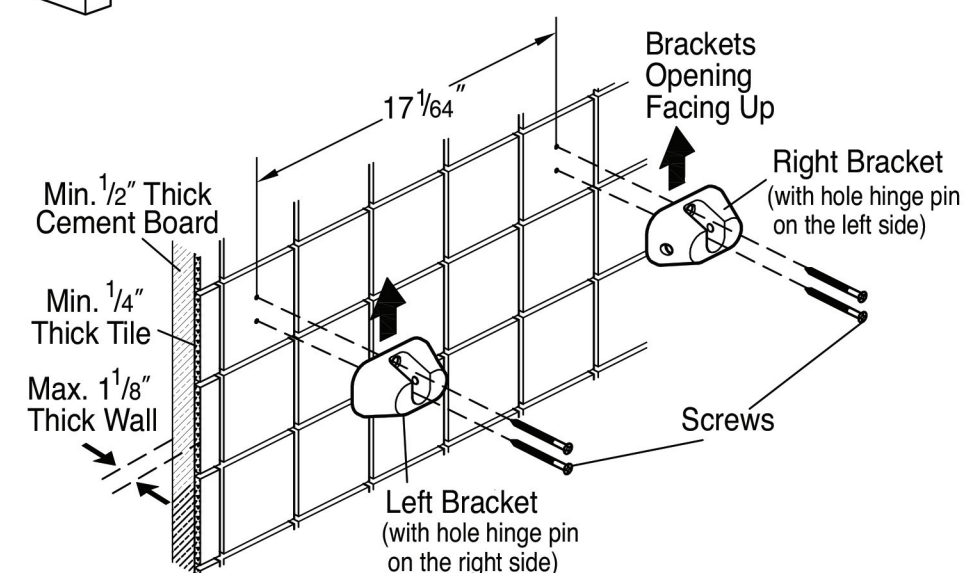

Fig. 2 Mounting Brackets to Finished Wall
6. The wall thickness (total thickness of materials not including the studs but including cement board or equal, mastic, tiles or marble...etc.) must not be more than 11/8" thick. A wall thickness of more than 11/8" may prevent the mounting screws from adequately penetrating the header. See figure 2.
10. Correctly position and mount the left and right brackets to the wall using the #12 x 3" screws provided. See figure 2 for correct positioning of both brackets. Do not over or under tighten the screws. NEVER use any other screws other than the screws provided. If the screws are missing, misplaced or damaged please call the manufacturer for free replacement screws.